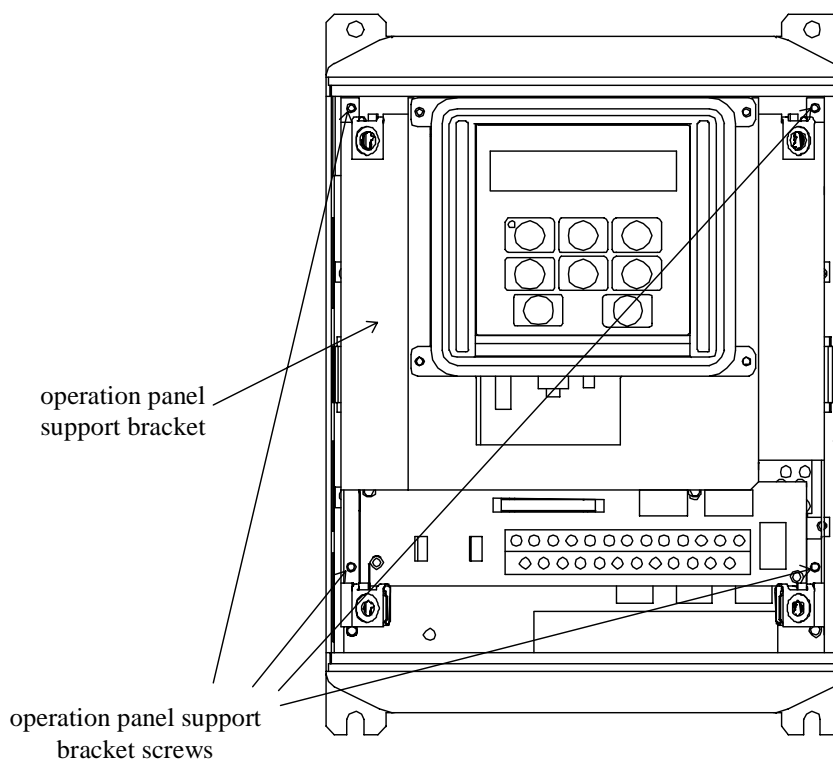

Figure 1: *G3 with front cover removed*
4. Loosen the 4 screws attaching the G3's operation panel support bracket to the control board support bracket, and then remove the operation panel and support bracket as a unit (refer to Figure 1).